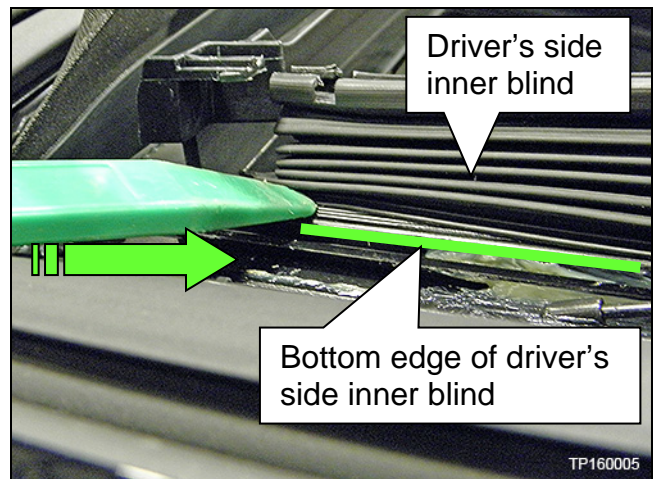

Figure 4
- b. Carefully detach the inner blinds from the Moonroof frame by pushing toward the inside of the vehicle along the bottom edge of inner blind (Figure 4).